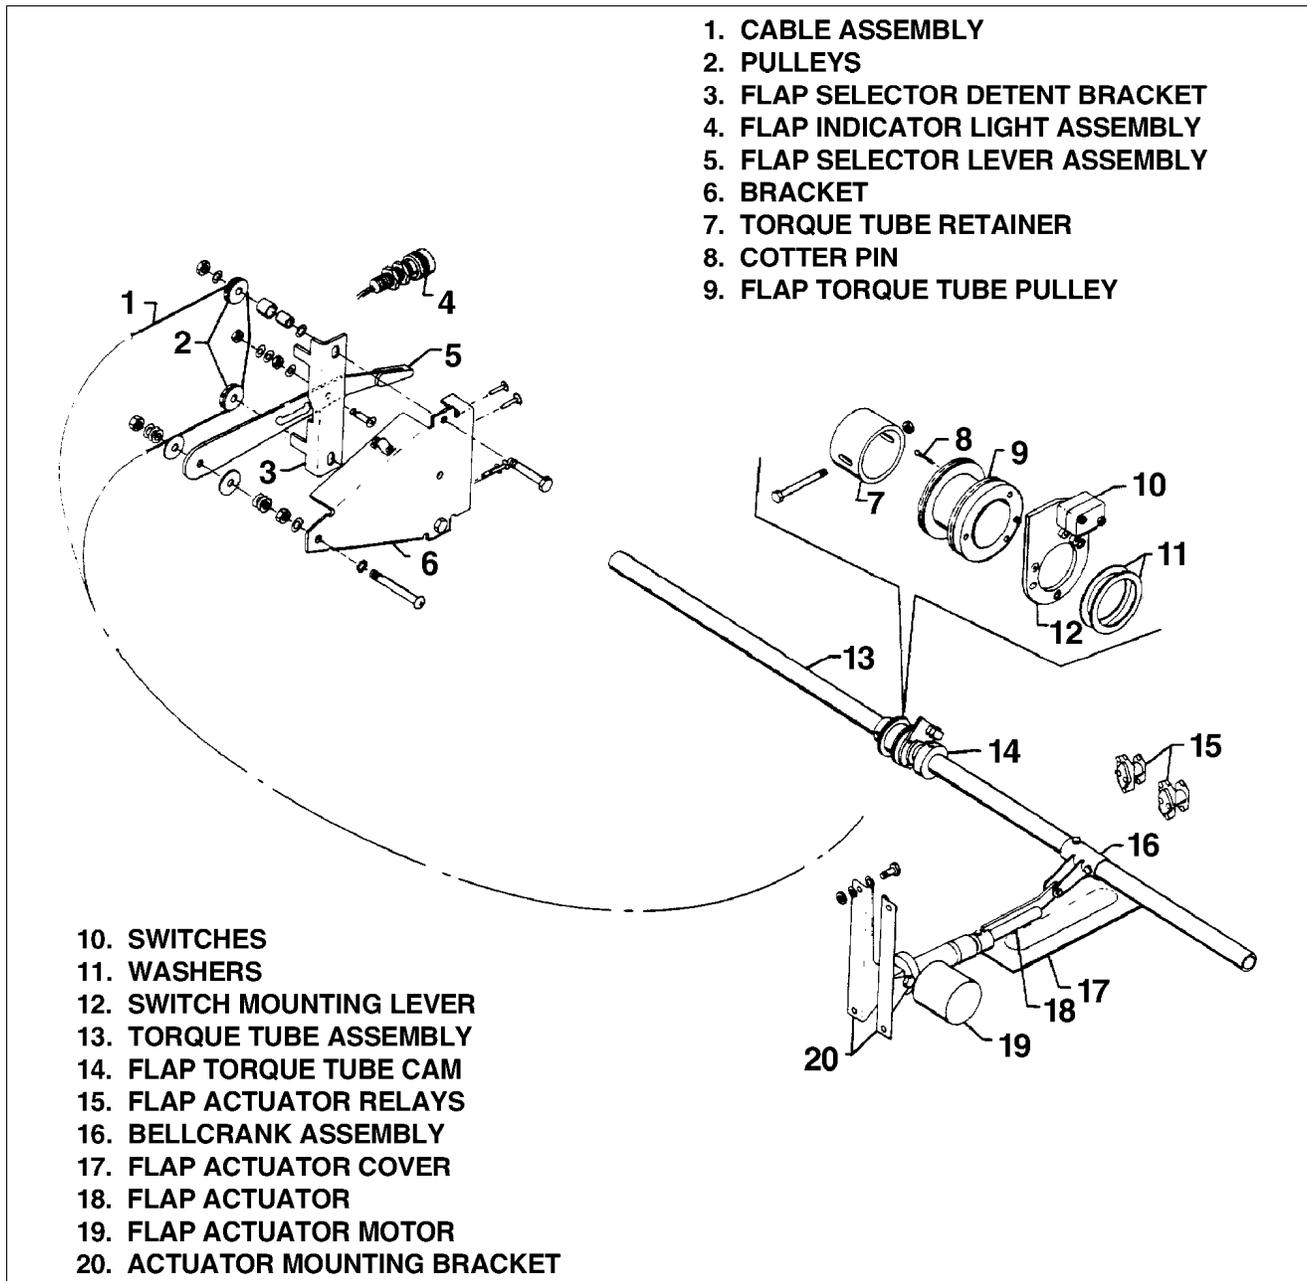

Figure 27-26. Electrically Operated Flap System
1. Removal of Wing Flap Controls. (Refer to Figure 27-26.)
2. Installation of Wing Flap Controls (Refer to Figure 27-26)